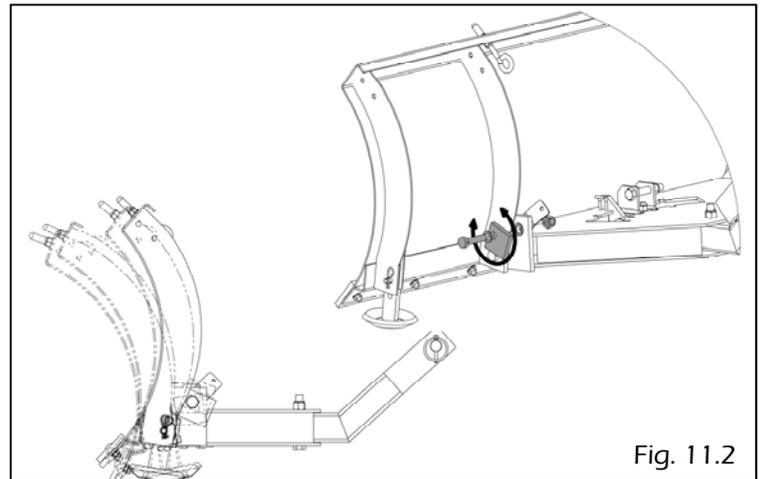

Fig. 11.2
- The forward tilt angle of the plow can be set to 4 different angles. There is a Tilt Block located on both sides of the plow. (See features on page 7, Item number 6 & Fig 11.2).